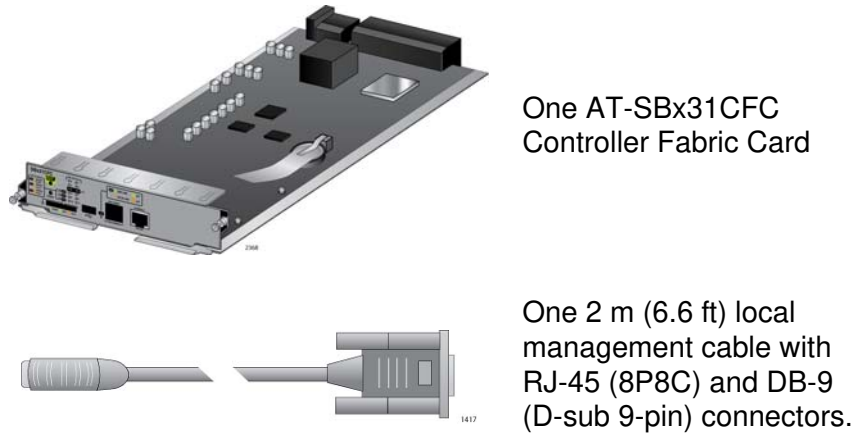

Figure 66. Items Included with the AT-SBx31CFC Controller Fabric Card
2. Remove the new AT-SBx31CFC Card from the shipping package and verify the package contents, listed in Figure 66.